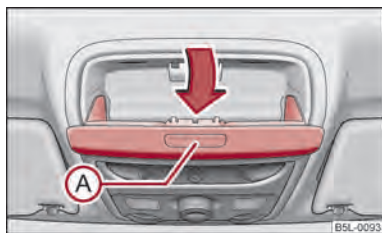

Fig. 80 Detail of the headliner: Stowage compartment for spectacles
- Press the button **A** ⇒ fig. 80, the storage compartment folds down.